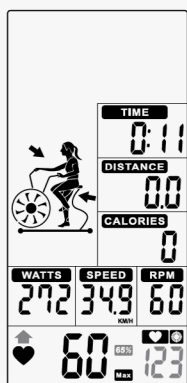

Figure 47
4. When Heart Rate goes below to 65%, & **65%** & value will flash. And buzzer sounds in every 10s until user HR achieve above 65% (Figure 47).